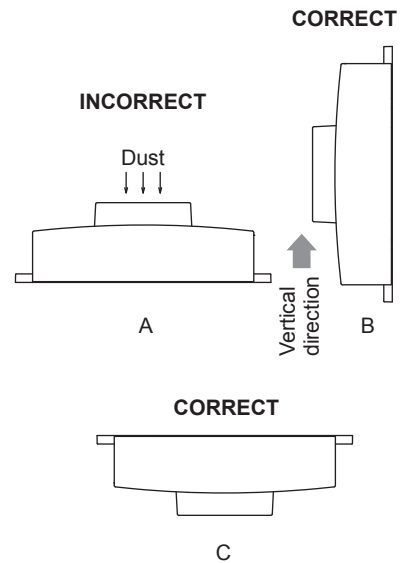

Figure 5.
- If the product is not installed in a dust-proof box, do not mount it as illustrated in Fig. 5. A. Dust will easily collect in the connectors.